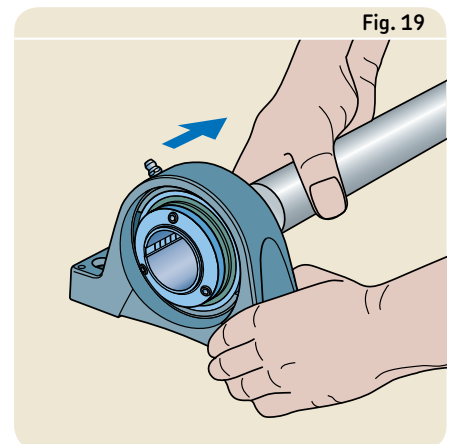

Fig. 19
- 4 Slide the first bearing unit onto the shaft orientating it to make sure that the locking device will be accessible for tightening (→ **fig. 19**).